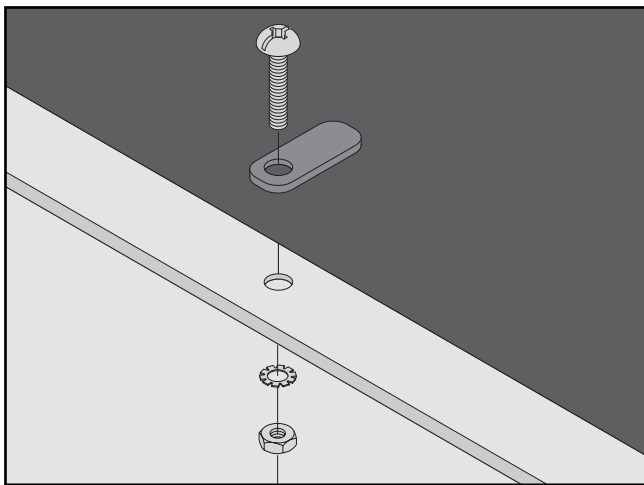

Figure 16. Dust port installation.
2. Using a Phillips head screwdriver and an 8mm wrench, secure the dust port to the saw with the Phillips head screws, the hex nuts, the exterior tooth washers, and the toggle tabs (**Figure 16**).